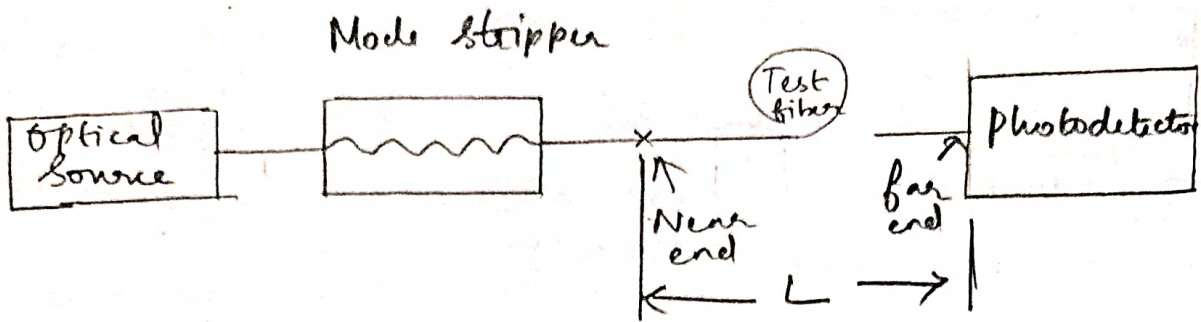

fig 4:14 Experimental setup of cutback method
* To find the transmission loss, the optical power is measured first at the output of the fiber as shown in fig 4.